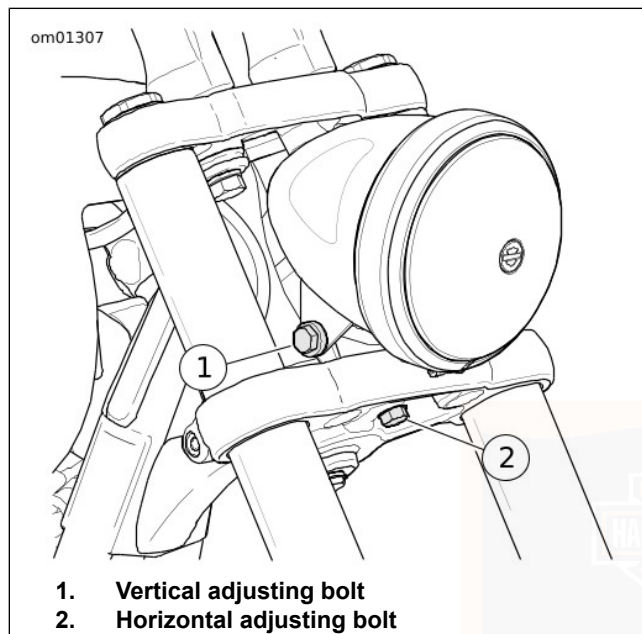

Figure 43. Headlamp Adjustment (typical)
1. See Figure 43. Loosen horizontal adjustment fastener (2). Tilt headlamp left or right to direct light beam straight ahead.
2. Tighten horizontal adjustment fastener (2) to 40.7–47.5 N·m (30–35 ft-lbs).
3. Loosen vertical adjustment fastener (1). Tilt headlamp up or down in relationship to the horizontal line from the headlamp alignment inspection.
4. Tighten vertical adjustment fastener (1) to: